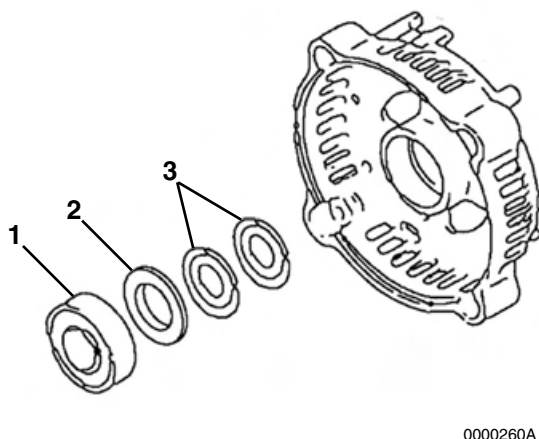

Figure 12-12
1. If removed, reinstall the two thrust washers (**Figure 12-12, (3)**) and bearing cover (**Figure 12-12, (2)**) in the rear frame housing. Lubricate the outside diameter of a new bearing (**Figure 12-12, (1)**). Press the bearing into the rear frame housing.